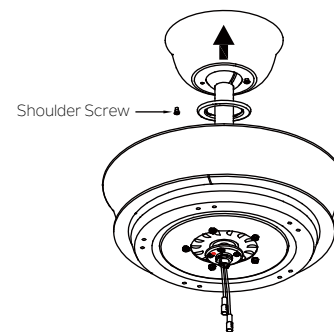

Fig.16
**Step 2.** Assemble canopy by rotating key slot in canopy over shoulder screw in mounting bracket.Tighten shoulder screw. Fully assemble and tighten second shoulder screw that was previously removed. (Fig. 16)